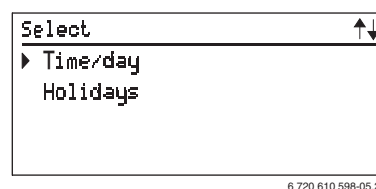

Fig. 37 Submenu: Time/day
- ▶ Press the  button to confirm the setting and return to the previous menu (fig. 37 page 25).